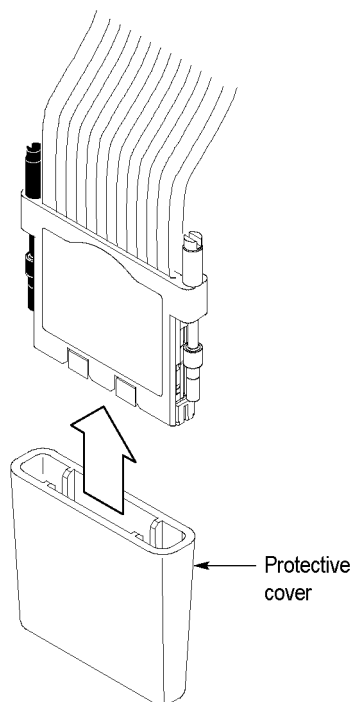

Figure 15: Protecting the probe heads
- Always store the probe head in the protective cover when not in use. (See Figure 15 on page 19.)
To protect the interface clip, it is important to properly store the probe heads when the probes are not in use. (See Figure 15.)